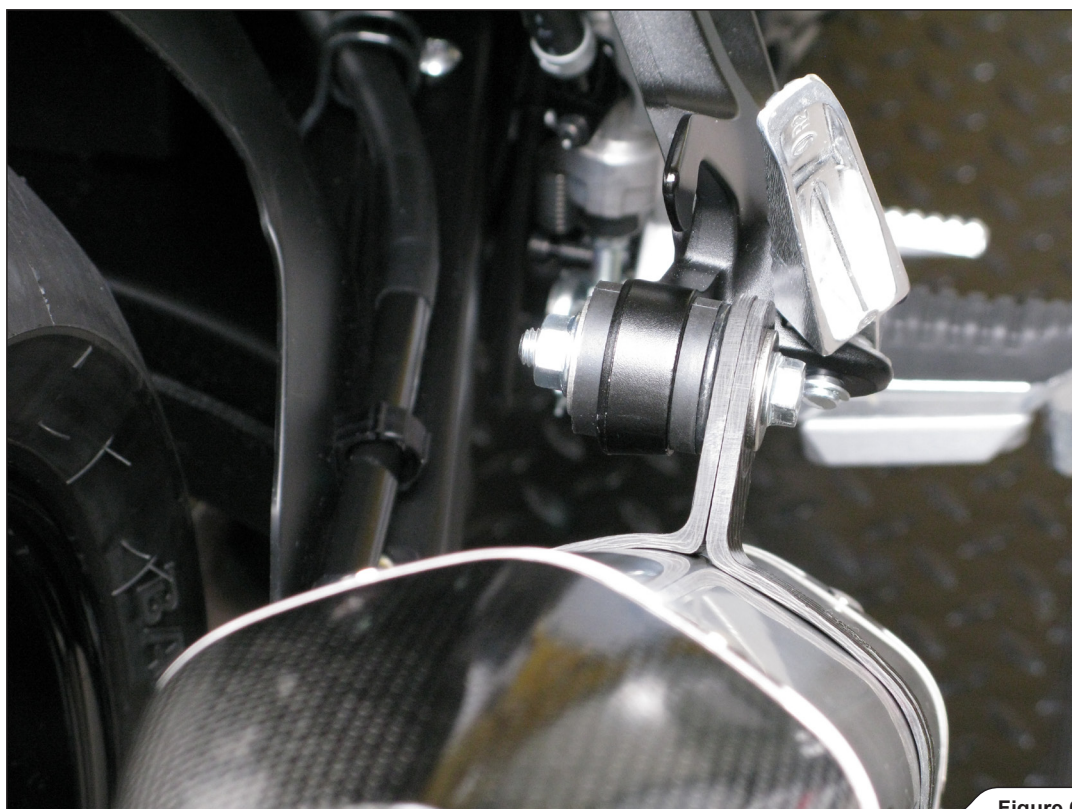

Figure 6
4. **For Slip-On only:** slide the muffler all the way onto the original catalytic converter pipe, align the muffler in respect to the motorcycle and tighten the carbon-fiber clamp using Akrapovič bolt, washers and nut, then tighten the metal clamp at the Akrapovič link pipe / original catalytic converter pipe joint (**Figure 6, 7**).